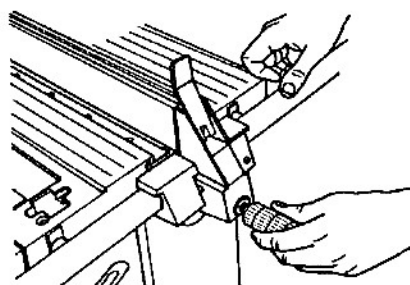

Fig. C-10
16. Once aligned, tighten the base knob, as in Fig. C-10. (Do not lock the fence handle.)